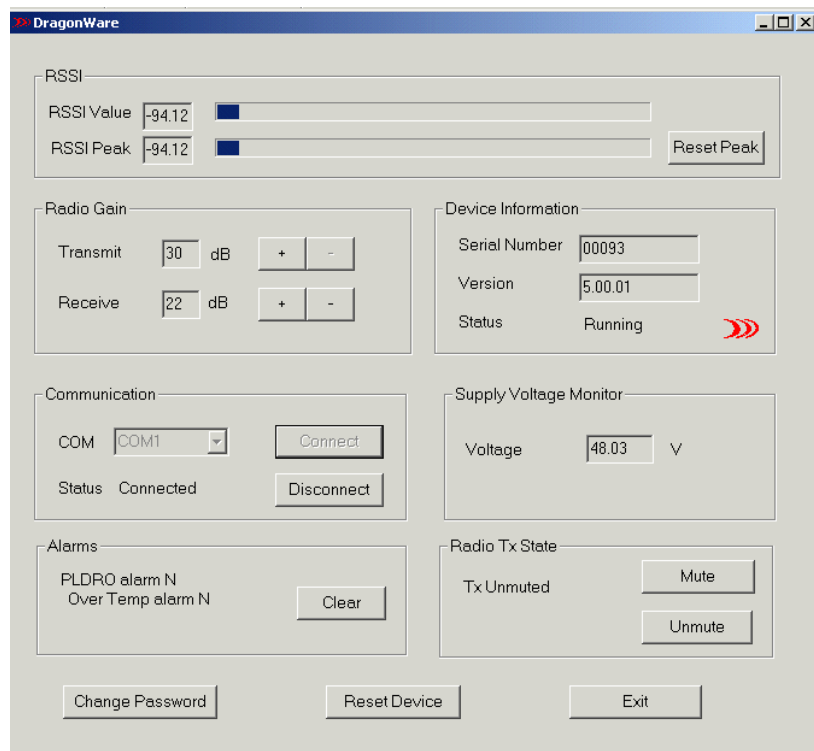

Figure 9-16: TS-RFU Management S/W Window, after Login
1. The **RSSI** area of the TS-RFU Management Software window in Figure 9-16 includes fields and bars for numeric and graphic representations of signal strength.